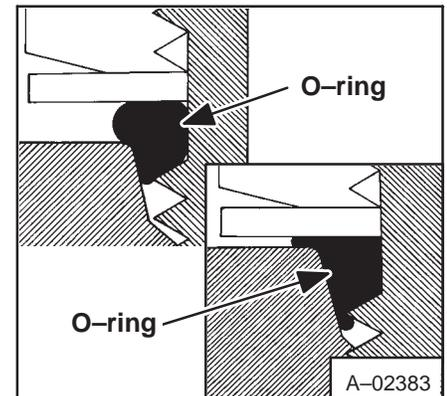

Fig. 2-7 Wrong Installation
4. If the fitting is not turned in far enough, the O-ring will be damaged and the fitting will leak (Fig. 2-7).